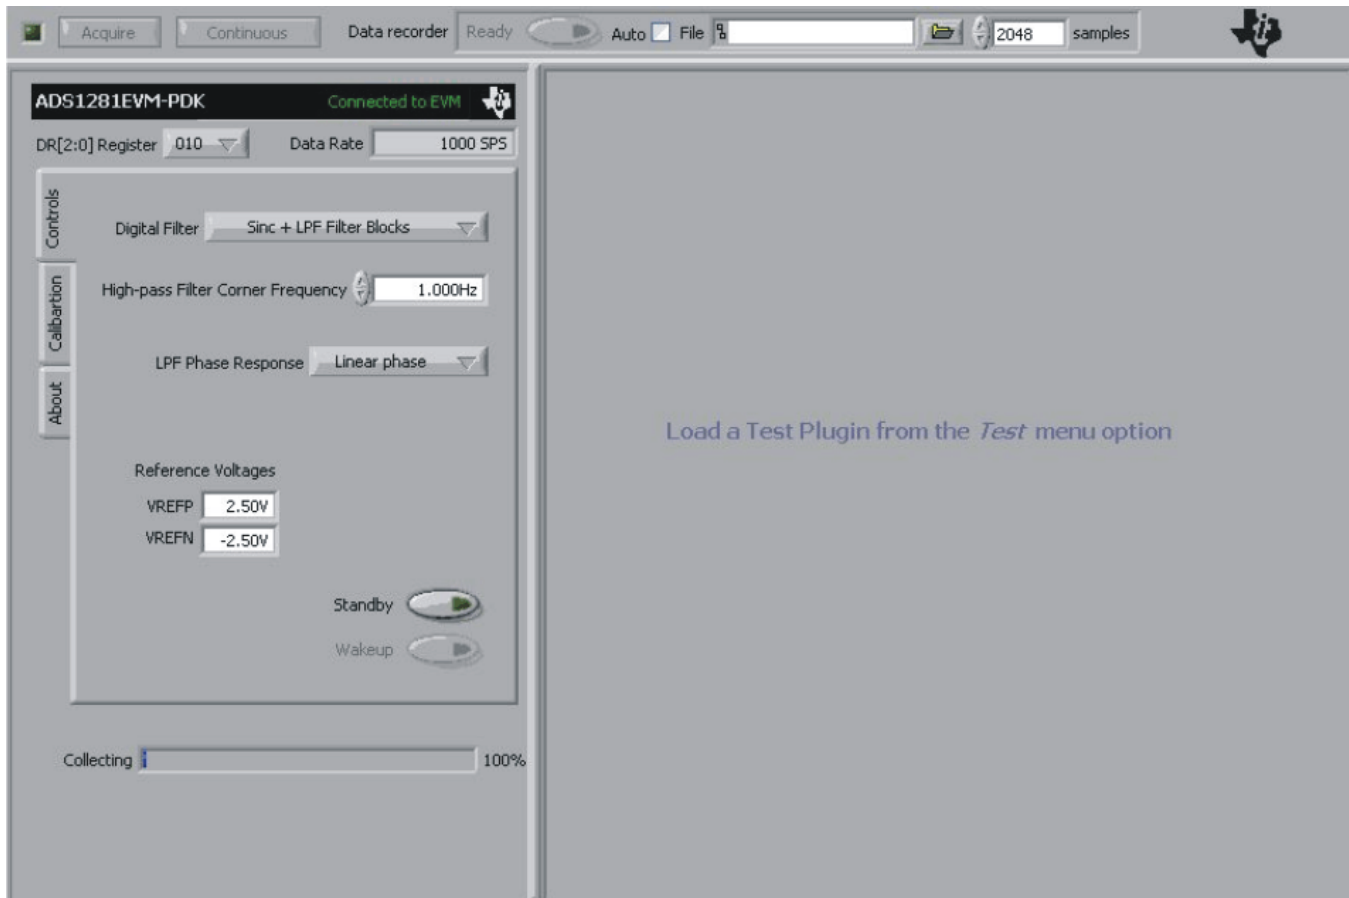

Figure 15. ADS1281EVM-PDK Plug-In Display Window
2. Select *ADS1281EVM* from the EVM drop-down menu. The ADS1281EVM-PDK plugin appears in the left pane, as shown in Figure 15.
The ADS1281EVM-PDK plug-in for ADCPro provides complete control over all settings of the ADS1281. It consists of a tabbed interface (see Figure 15), with different functions available on different tabs. These controls are described in this section.